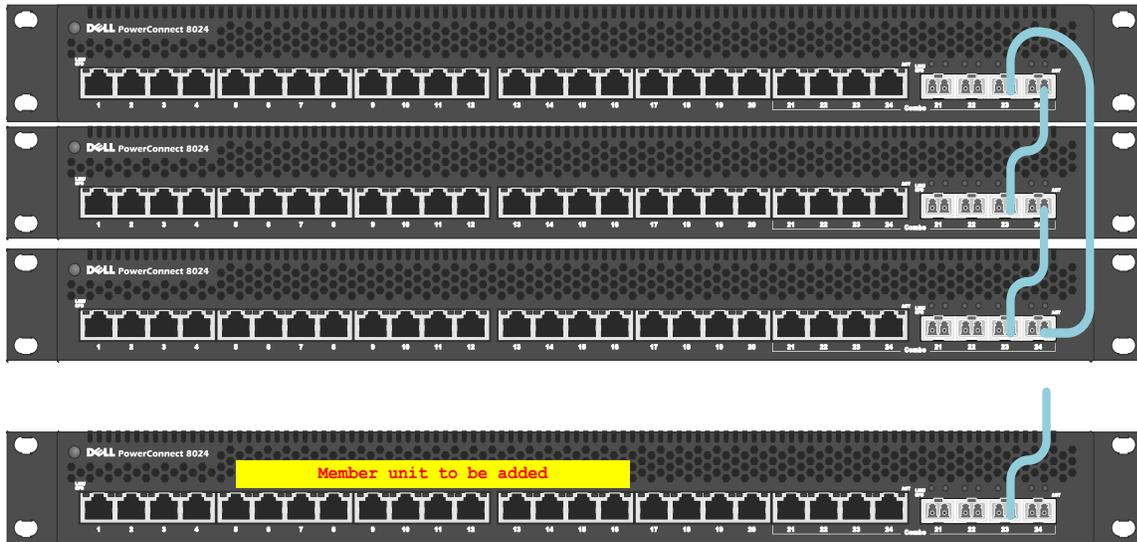

Figure 13. Preparing a Stack Unit (Web UI method)
10. Plug the new cable into one of the two stack ports on the new switch unit to be added. See Figure 13.